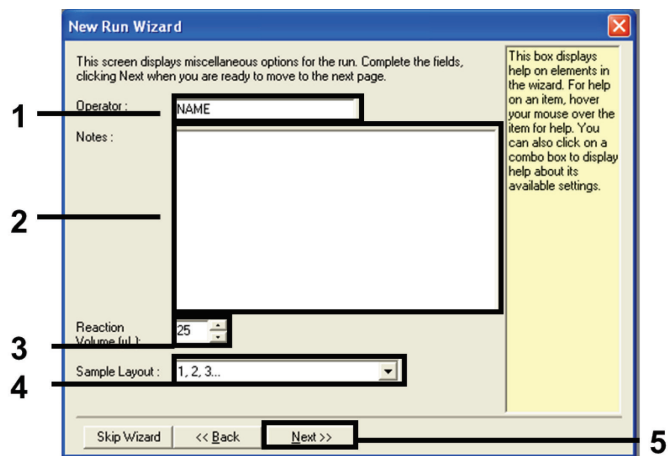

Figure 2. Entering operator name and reaction volumes.
4. Enter the name of the operator. Add any notes and enter the reaction volume as **25**. Ensure that the values in the Sample Layout field is **1, 2, 3...** Click **Next** (Figure 2).